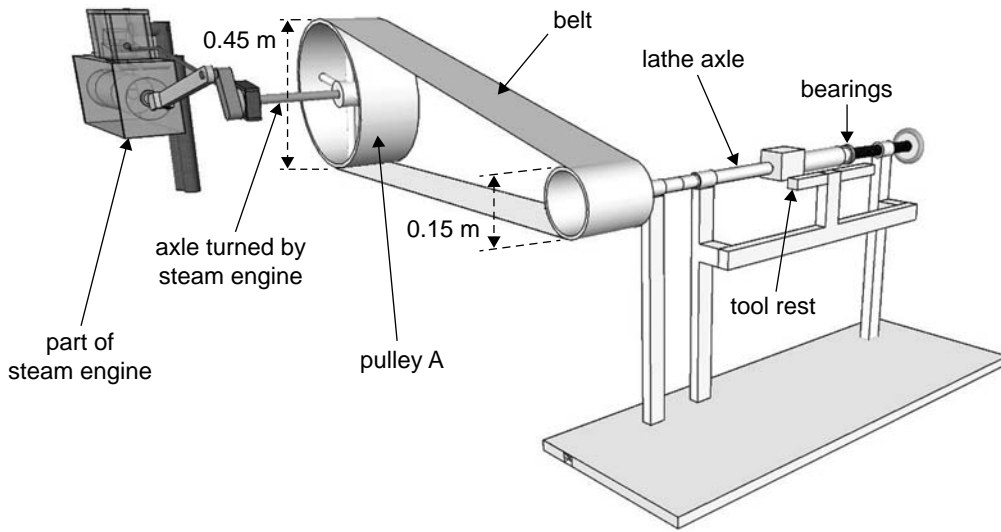

Figure 3
During the late 1800s, steam engines were used to drive industrial lathes and other equipment, as shown in Figure 3 below.
- a. Calculate the rpm of the lathe axle in Figure 3. Show your working. 2 marks
- c. Calculate the speed of the belt in Figure 3. Show your working. 2 marks